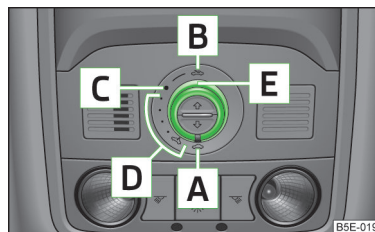
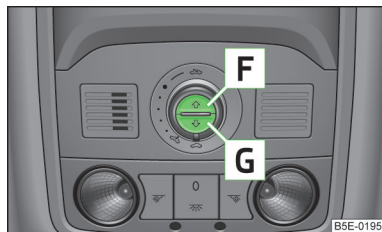

Fig. 26
Fig. 27
- If, for example, the battery has been disconnected and reconnected, it is possible that the sliding/tilting roof does not operate correctly. Next, move the rotary switch into position **A** » Fig. 26 on page 45, pull it, and hold onto the recess downwards and forwards tightly. The sliding/tilting roof opens and closes again after around 10 seconds. Do not release the control dial until it has done so.
- If, for example, the battery has been disconnected and reconnected, it is possible that the sun screen does not operate correctly. Then turn the switch to position **A** » Fig. 26 on page 45 and press and hold the button **G** » Fig. 27 on page 46. The sun screen opens and closes again after around 10 seconds. Do not release the control dial until it has done so.
➤ Turn the switch to position **C** » Fig. 26.
- Turn the switch to position **A** » Fig. 26.
The sun screen can be closed or opened using the buttons » Fig. 27.
- Briefly press the button **F** » Fig. 27 to open fully.
- Briefly press the button **G** » Fig. 27 to close fully.